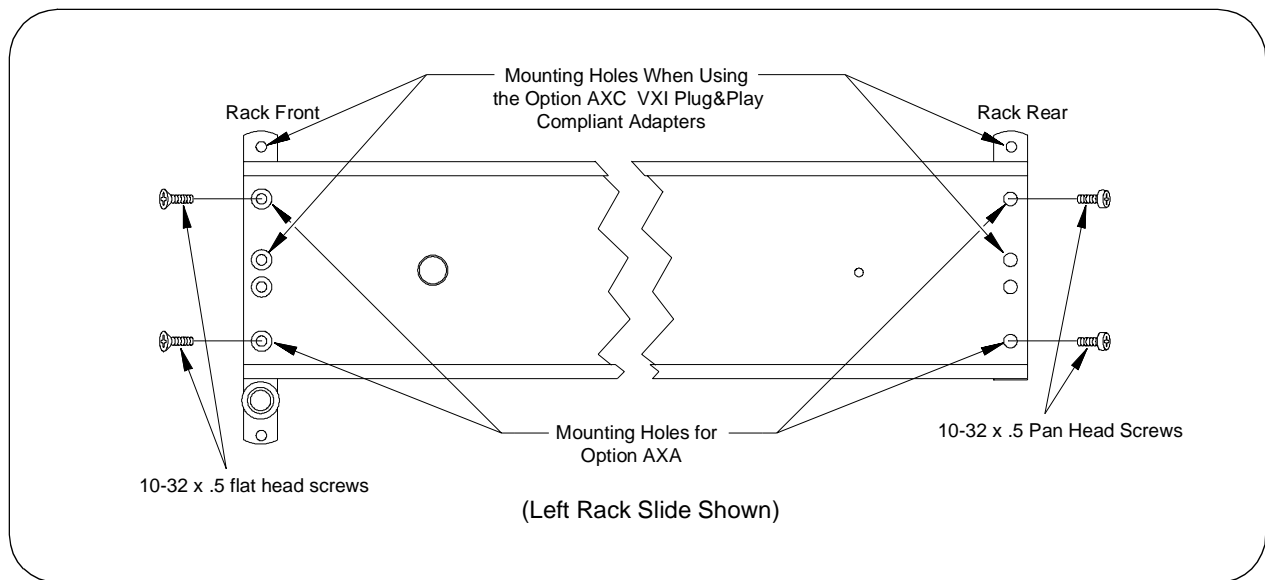

Figure 9 . Installing the Rack Slide Stationary Sections.
- Use two 10-32 x 0.5 flat head screws to attach the stationary section to the rack's front inside column through the channel nuts. Use two 10-32 x 0.5 pan-head screws to attach the stationary section to the rear inside column (see Figure 9). Repeat for the opposite side.